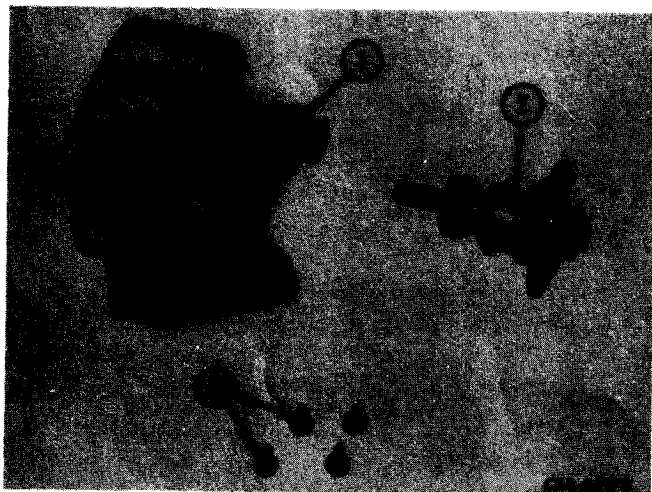

Figure 13-45
Remove cap screws and lock washers (3, Fig. 13-45). Remove cap assembly (2) from body (1).